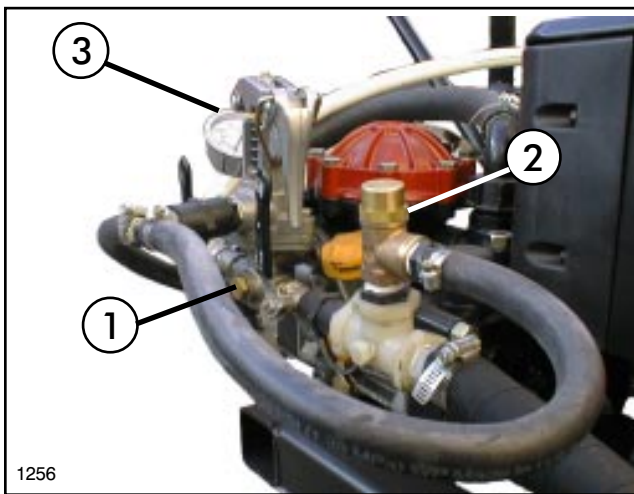
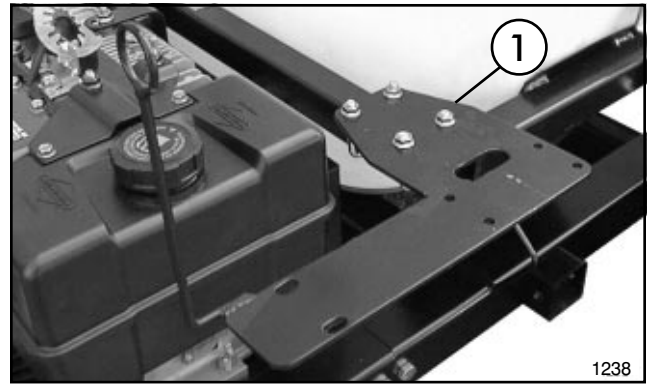

FIG. 8
FIG. 9
1. Install (1) 1/2" Barbed Tee into the front port of the Pressure Relief/Adjustment Valve using (1) 1/2" Nipple and Coupling. See FIG. 8.
4. Loosen the (2) hex nuts securing the Pressure Relief/Adjustment Valve to the Diaphragm Pump. Apply thread sealer and install the 1/2" Ball Valve into the L.H. port of the Pressure Relief/Adjustment Valve and retighten hex nuts. See FIG. 8.
5. Apply thread sealer and attach the 3/4" tee to the 1/2" ball valve using (1) 1/2" coupling and (1) 1/2" x 3/4" reducing nipple.
6. Apply thread sealer and install the Relief Valve in the top port in tee using (1) 3/4" x 1/2" reducing bushing as shown in FIG. 8.
7. Apply thread sealer and install (1) 1/2" hose barb in open port in Relief Valve. Connect Relief Valve and barbed tee using (1) 1/2" x 21" hose and (2) hose clamps.
9. Secure Valve Plate to the front bar of the Saddle Assembly using (2) U-Bolts and (4) 5/16" flange nuts. See FIG. 9.
12. Connect Ratchet Valve to tee at pump with (1) 1" x 36" Hose and (2) hose clamps. See FIG. 8 & 10
13. Secure the 1" x 64" Hose to hose barb in the rear of the Ratchet Valve using (1) hose clamp. Route along Saddle frame toward rear of vehicle. Secure hose to Valve Plate using (1) tie cable.
14. Attach handle to Ratchet Valve using (2) 5/16" x 3/4" cap screws and flange nuts.